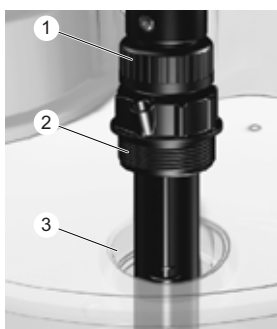

Fig. 12 Inserting the suction lance
- For the following steps see fig. 12.
5. Loosen clamping ring connection (1).
6. Screw adapter screw (2) into the threaded hole of the adapter for IBC containers.
9. Tighten clamping ring connection (1) manually.
7. Loosen clamping ring connection (1).
8. Install the suction lance in the container by screwing the counter nut onto adapter screw (2) from the inside of the container.
10. Tighten clamping ring connection (1) manually.